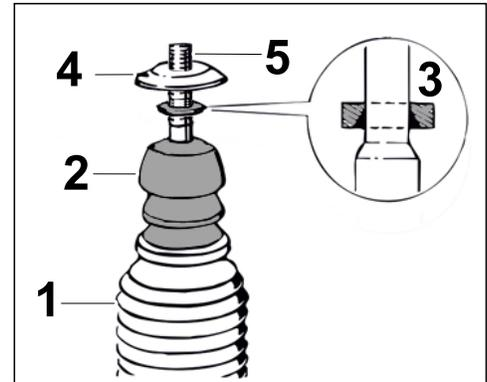

Figure 2
2.1.1 Attach protective bellows to additional spring and fit on piston rod (⇒ *Figure 2*).
2.1.2 Push cone washer and stop plate as far as they will go onto the piston rod at the correct position (⇒ *Figure 2*).